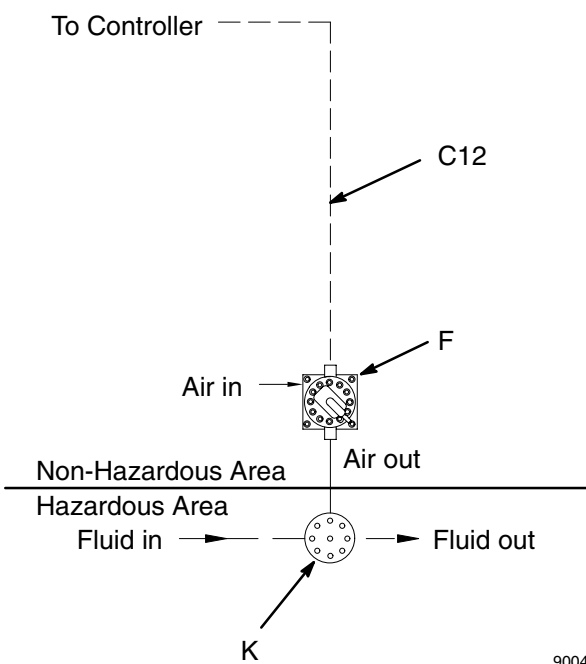

Fig. 3.21
1. See Fig. 3.21. Install the fluid regulator (K) in the spray booth, on the fluid supply line to the spray gun. Locate the fluid regulator as close to the spray gun as possible.
2. Install the I/P transducer (F) in the non-hazardous area, but as close to the fluid regulator as possible. Mount the transducer on a vibration free surface. 100 ft. (30.5 m) of cable (C12) is supplied, connecting the I/P transducer to the controller.
3. Connect a minimum 3/8 in. (10 mm) air supply line to the I/P transducer (F).